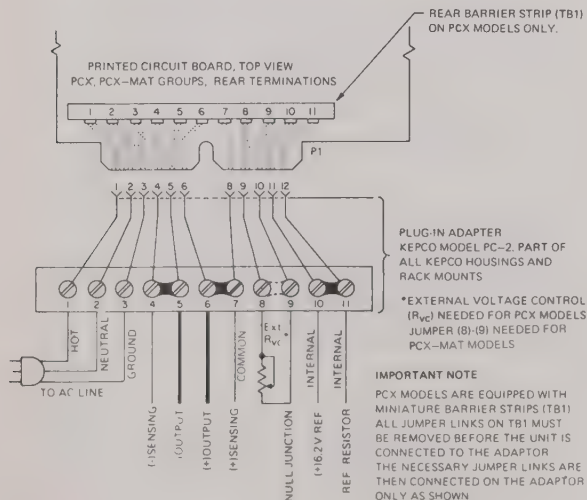

FIG. 2-2 REAR TERMINATIONS, PCX AND PCX-MAT GROUPS
- REAR: Refer to FIG. 2-2.
- b) PCX-MAT MODELS. Connect to mating device (either one of the accessories described in paragraph 1-8) and to AC power line. Turn AC POWER SWITCH "on" (Refer to FIG. 2-2 for the location of the front panel controls). AC LINE INDICATOR light (part of AC POWER SWITCH) should energize. Turn VOLTAGE CONTROL slowly clockwise and observe the increase of the output voltage on the panel meter (M101). The output should increase smoothly from zero to the maximum rated output voltage of the model under test. Shut AC POWER SWITCH "off". This concludes the preliminary check-out.